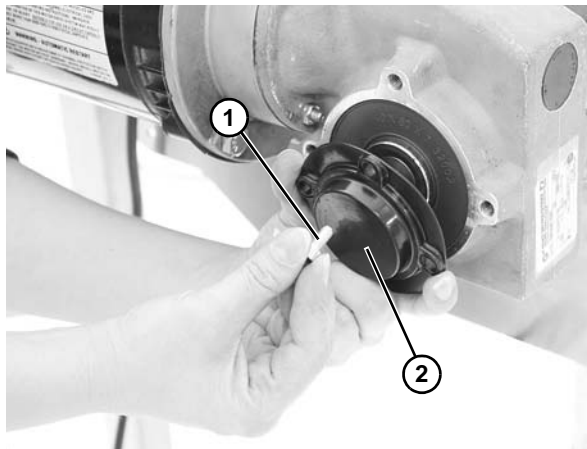

Figure 41
- Remove four socket head screws (**Figure 41, item 1**) securing end cover (**Figure 41, item 2**) to the drive motor.